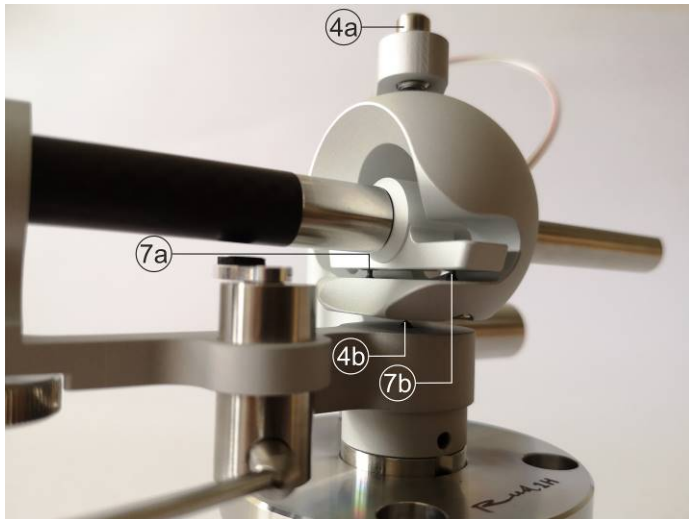

Figure 14
**Before using your tonearm (making adjustments or playing LPs) make sure that bearings of vertical and horizontal axis - [4a], [4b] and [7a], [7b] are in correct position (Figure 14).**